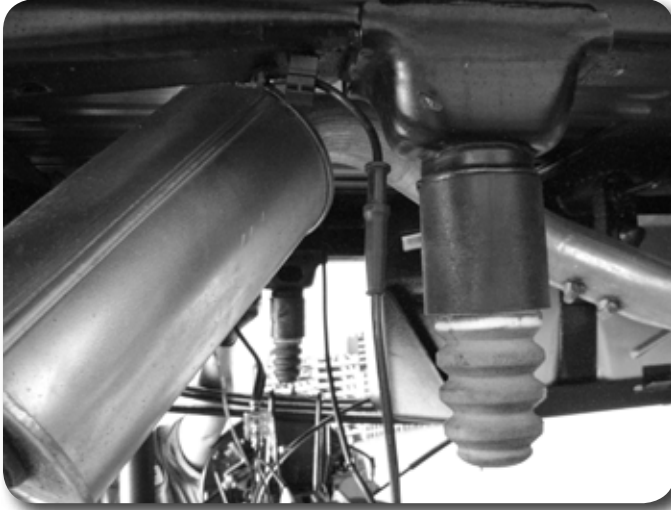

Figure 27
12. Remove the rear rubber bump stops from the frame. Access the bolt head up through the center of bump stop using a 10mm socket. Remove the bump stop and install the provided 3" diameter x 3" tall spacer between the bump stop and the frame mount with a 10mm x 110mm allen head bolt (Loctite threads). Center the spacer on the lip of the factory bump stop cup and torque bolt to 35 ft-lbs Figure 27.